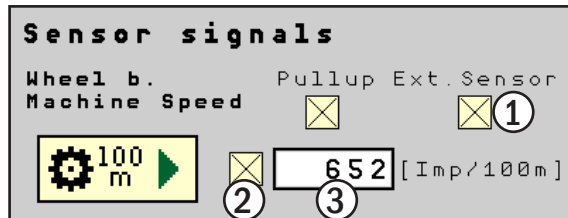

Fig. 87: Sensor signals – Enter pulse rate for external sensor manually
- Activate the check box (1) in Fig. 87, to use the external sensor as a pulse generator.
- Enter the value in the text box (see Fig. 87 – 3). If you have entered a valid value, the check box in front of the pulse rate is automatically activated (see Fig. 87 – 2) to accept this value. Do not select the check box manually.